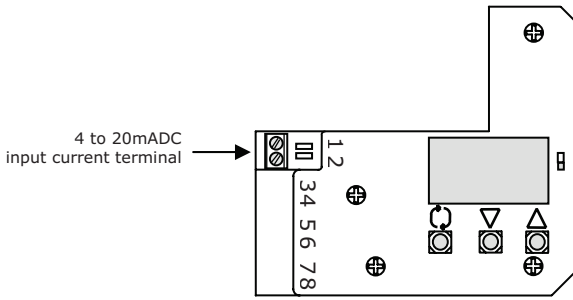

Fig. 7
- (1) Remove the positioner body cover.
- (2) Connect the input current wiring from an adjusting meter (controller) following Fig. 7.